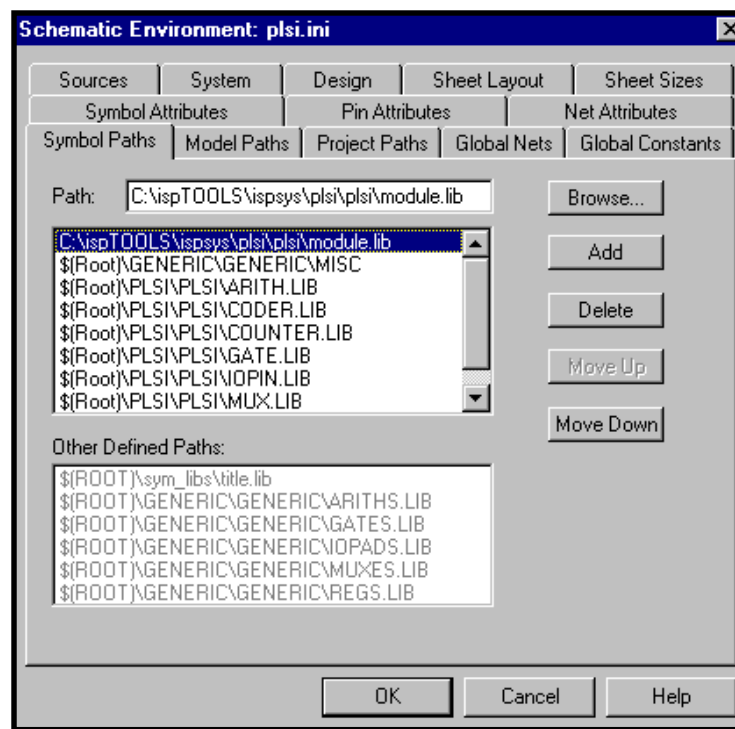

Figure 6-10. Symbol Paths Tab of Schematic Environment Dialog Box
3. Click **Add** to add the library to the search paths of your project (Figure 6-10).